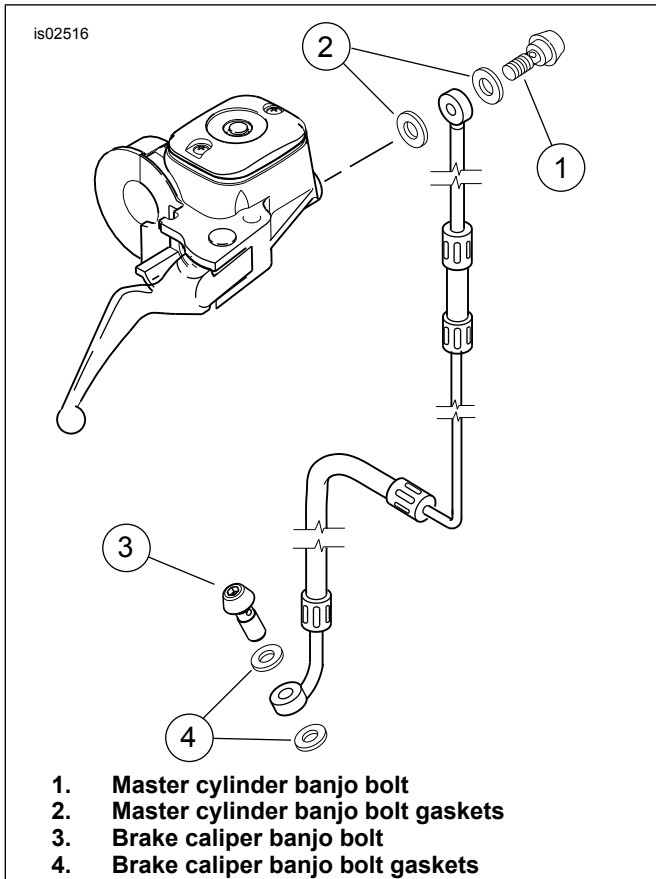

Figure 1. Install Banjo Bolts
3. Install **new** steel/rubber gaskets (4), brake line and banjo bolt (3) onto the caliper in the order shown in Figure 1. Tighten banjo bolt to 23–29.8 N·m (17–22 ft-lbs).
4. Remove the banjo bolt (1) and steel/rubber gaskets (2) to detach front brake line from master cylinder. Discard gaskets and banjo bolt.
6. See Figure 1. Position a new steel/rubber gasket (2) on each side of brake line banjo fitting. Insert banjo bolt (1) through washers and fitting. Thread bolt into master cylinder housing. Tighten to 23–29.8 N·m (17–22 ft-lbs).